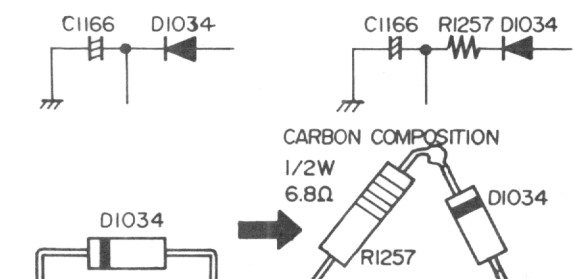

Figure 2-9
- 13) Solder the other lead of the resistor to the cathode lead of D₁₀₃₄ on the component side, as shown in Fig. 2-9.